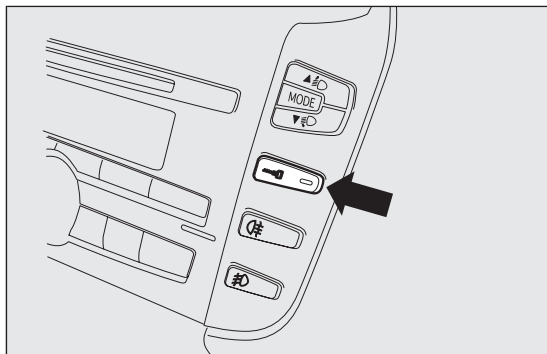

fig. 13
- door locking/unlocking button fig. 13 on the central trim;